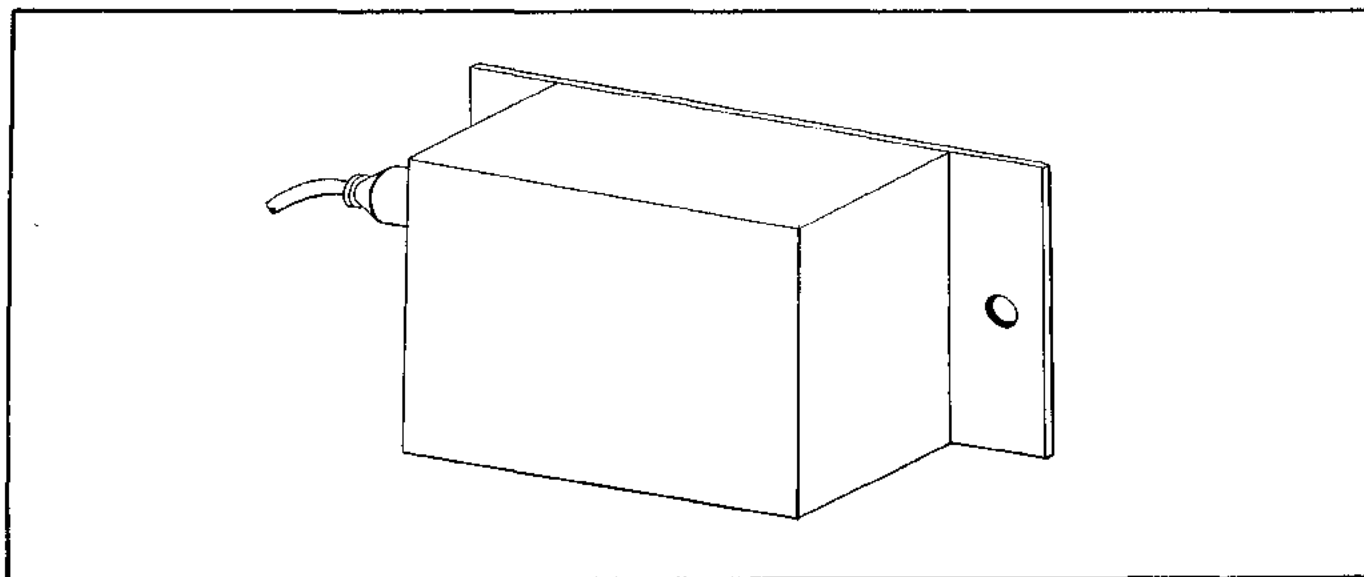

Figure 3-34. Relay Box Installation
**3-136. INSTALLATION OF RELAY BOX. (PA-44-180) (Refer to Figure 3-34.)**